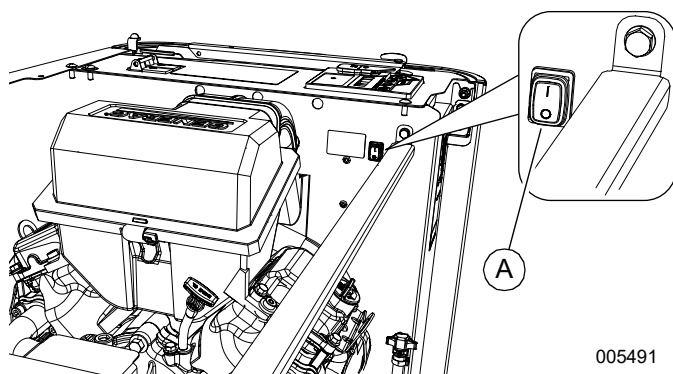

Figure 3-7. Internal Auxiliary Shutdown Switch (14–24kW)
See Figure 3-7. 14–24 kW generators also have an auxiliary shutdown switch (A) located inside generator.